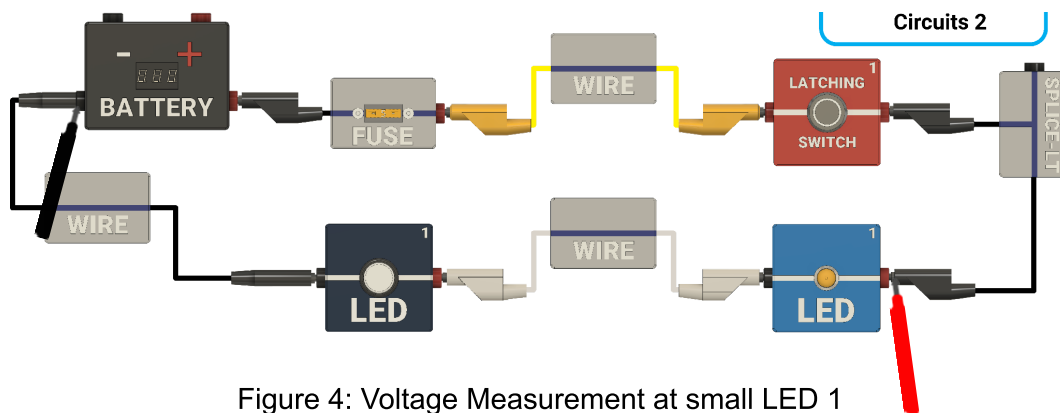

Figure 4: Voltage Measurement at small LED 1
- a. Place the multimeter's positive probe on the connection point just before the light blue small LED 1 (where the power enters small LED 1). See Figure 4